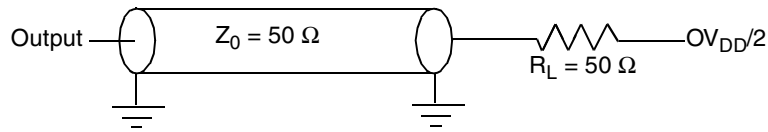

Figure 32. AC Test Load for the JTAG Interface
- All outputs are measured from the midpoint voltage of the falling/rising edge of  $t_{TCLK}$  to the midpoint of the signal in question. The output timings are measured at the pins. All output timings assume a purely resistive 50-Ω load (see Figure 32). Time-of-flight delays must be added for trace lengths, vias, and connectors in the system.
- The symbols used for timing specifications herein follow the pattern of  $t_{(first\ two\ letters\ of\ functional\ block)(signal)(state)}$  (reference)(state) for inputs and  $t_{(first\ two\ letters\ of\ functional\ block)(reference)(state)(signal)(state)}$  for outputs. For example,  $t_{JTDVKH}$  symbolizes JTAG device timing (JT) with respect to the time data input signals (D) reaching the valid state (V) relative to the  $t_{JTG}$  clock reference (K) going to the high (H) state or setup time. Also,  $t_{JTDXKH}$  symbolizes JTAG timing (JT) with respect to the time data input signals (D) went invalid (X) relative to the  $t_{JTG}$  clock reference (K) going to the high (H) state. Note that, in general, the clock reference symbol representation is based on three letters representing the clock of a particular functional. For rise and fall times, the latter convention is used with the appropriate letter: R (rise) or F (fall).
Figure 32 provides the AC test load for TDO and the boundary-scan outputs of the MPC8555E.